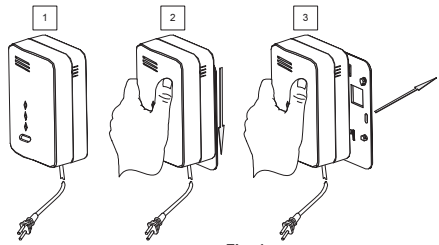

Fig. 1
1. Remove the mounting bracket from your unit according to Fig. 1.